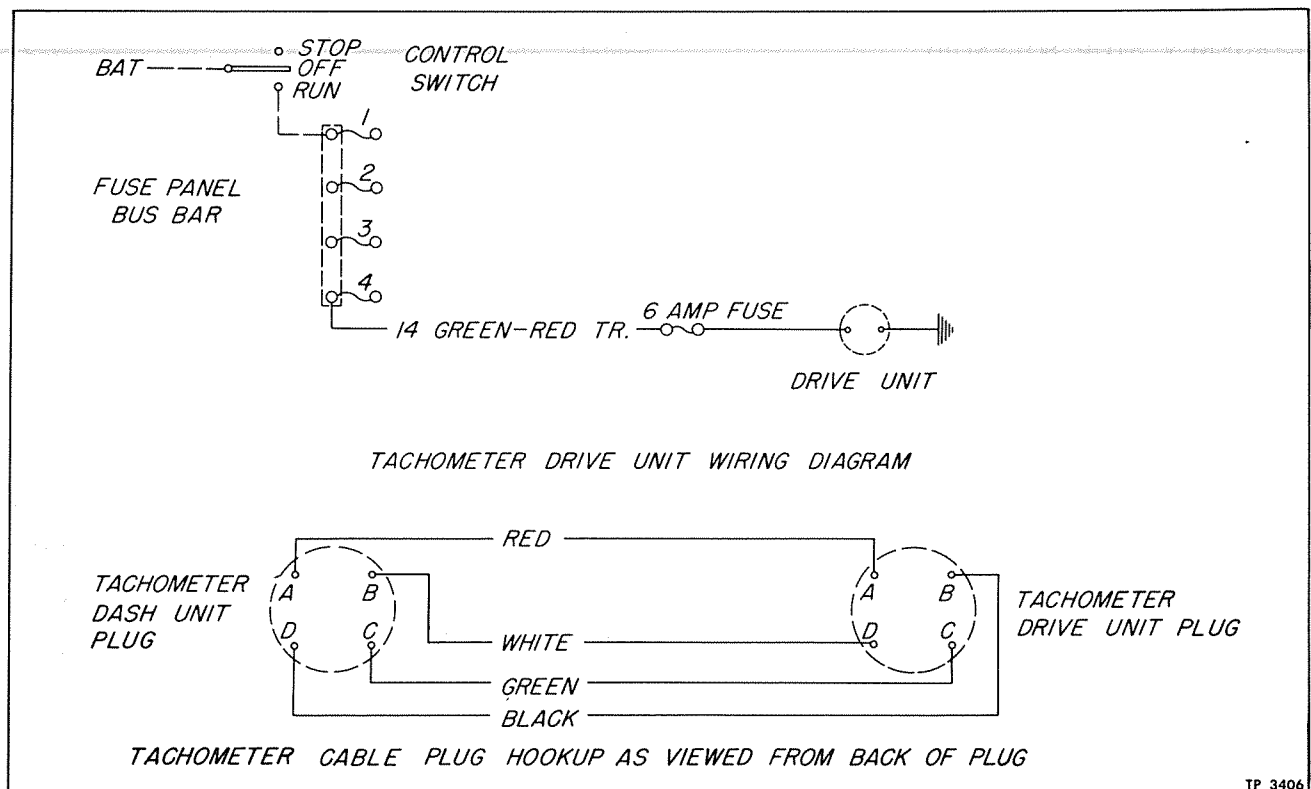

Figure 5—Engine Tachometer Wiring Diagram
Drive unit uses 12 volt current taken from vehicle electrical system and is interconnected with control switch so that tachometer is inoperative when control switch is in "OFF" position as shown in figure 5. This current is divided in the drive unit by means of a mechanical driven rotor having two brushes which run against a resistor ring. These electrical impulses are transmitted through the four-wire cable to the motor unit where two pair of coils cause a magnetic rotor to rotate at exactly the same speed as the mechanical driven rotor in the drive unit. Since the magnetic rotor is coupled to tachometer head, rotation is transformed to a reading on face of calibrated tachometer head. Thus, a synchronized electrical drive is accomplished.
1. Check test lamp bulbs with battery to be sure they are not burned out. Check 6 amp. fuse in wire leading from vehicle electrical system to drive unit, refer to Wiring diagram figure 5, to be sure it is not burned out.